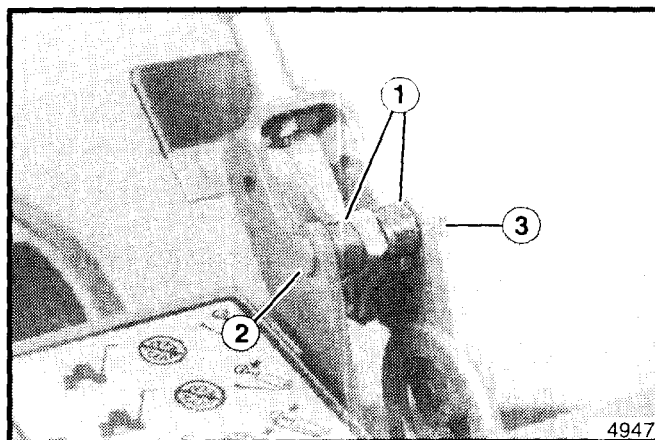

Figure 24. Clutch Control Lever
20. Remove the cotter and clevis pins, and the two bushings on the control handle (see figure 24). Turn the rod to shorten or lengthen the rod as required and reattach the rod to the handle with the clevis pin.